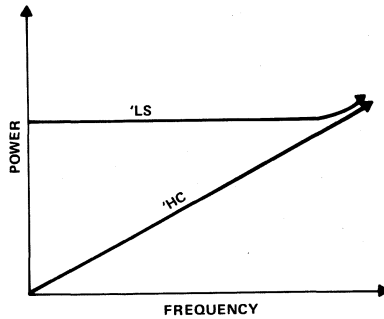
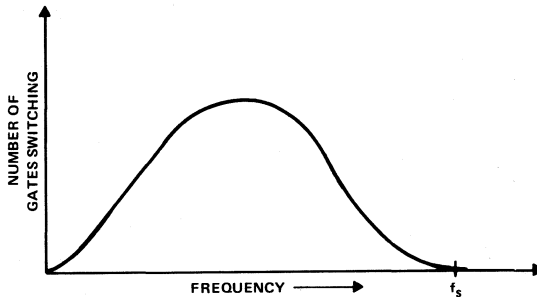
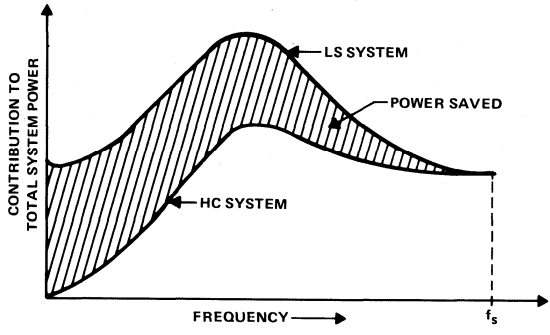

Figure 9. Power Consumed Versus Frequency for High-Speed CMOS Compared to LSTTL
Figure 10. Typical Distribution of Switching Frequencies for Gates within a System with Maximum Clock Frequency, f_s
Figure 11. Contribution to Total Power by Gates Running at Frequencies from 0 to f_s
1. The high-speed CMOS family can operate at speeds comparable to LSTTL. The high-speed CMOS family has a parameters guaranteed at a supply voltage of 2 V, 4.5 V, and 6 V over the full operating temperature range into a 50-pF load (also, 150 pF for high-current outputs). Note that at the higher operating frequencies, the power consumption is also comparable to LSTTL (Figure 9).
2. Figure 9 also shows that the high-speed CMOS family covers a wide range of applications: low power drain for low-speed systems, and a slightly higher drain for higher speed systems.
As mentioned previously, the power consumption for an individual gate at the maximum speed is comparable to LSTTL. However in typical systems, only a fraction of the gates are switching at the clock frequency; therefore, significant power savings can be realized. On a system level where the individual gate switching frequencies are distributed between zero and the system clock frequency (Figure 10), the power saved with high-speed CMOS can be quite significant, as illustrated in Figure 11. The total system power is the area under each curve. The graph in Figure 11 is obtained by multiplying the individual gate characteristics (Figure 9) by the frequency distribution in Figure 10.
4. High-speed CMOS is ideal for battery-operated systems, or systems requiring battery back-up, because there is virtually no static power dissipation (Figure 9).